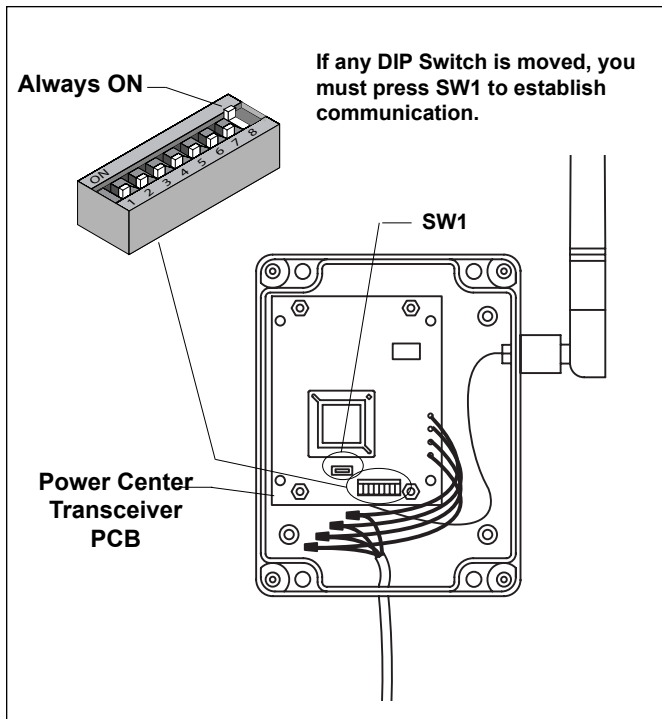

Figure 33. DIP Switch Settings at Power Center J-Box
3. At the Outdoor Transceiver J-box, remove the cover to expose the Transceiver PCB (see Figure 33). Set the DIP switches (except #8) to the same settings as the Control Panel Transceiver PCB that is in the house. **Important-** Before installing the J-box cover, press the reset button (SW1). Close the cover and test the system.